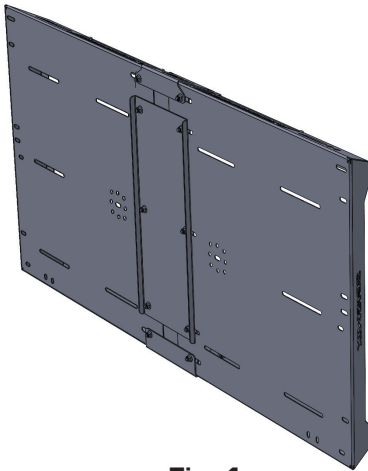

Fig. 1
2. It's ideal to have an assistant for mounting the sides. If you are not able to, find something sturdy enough to lean the Universal Basket against so you are able to assemble the sides more easily. Tip the Universal Basket back so the Connecting Bracket Front is facing up as shown in Fig.1.